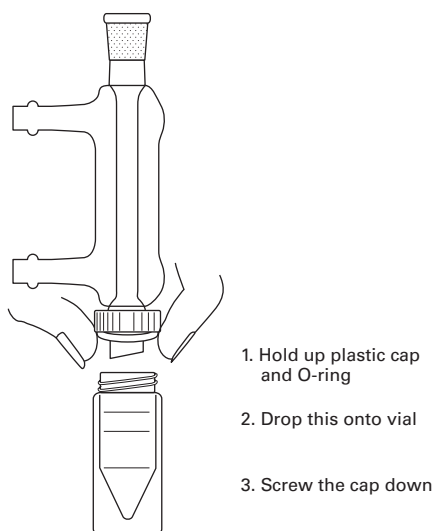

FIGURE 5.2 O-ring cap seal on husky apparatus.
1. Get a conical vial (appropriate size) that'll fit on the end (male joint) of the condenser (Fig. 5.2).